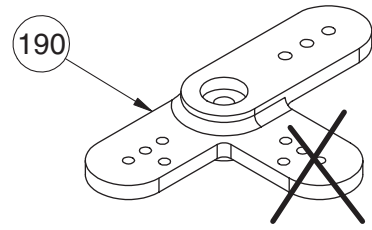

Figure I-18
- ❑ 1. For slide valve carburetors, you will need to remove the shorter, perpendicular Arm of the Throttle Servo Arm (190), as shown in Figure I-18. Cut off the Arm with heavy duty clippers or a Dremel™ hobby tool.